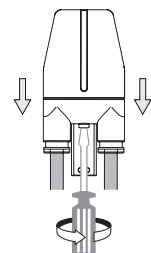

fig. 8
- Secure the cover by tightening the captive screw located on the lower part of the base; tighten the screw until the cover is pressed against the seal, ensuring a hermetic seal (fig. 8).